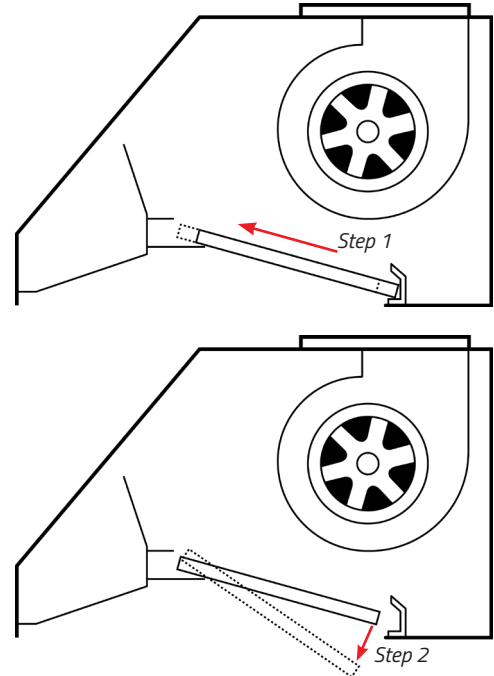

Figure 1
- Remove the Baffle Filters. **(Step 1 & 2 in Figure 1)**
- Align the baffle filters with the Hood Body and install them in revert steps **(Step 2, then Step 1)** in **Figure 1** in Page 7.